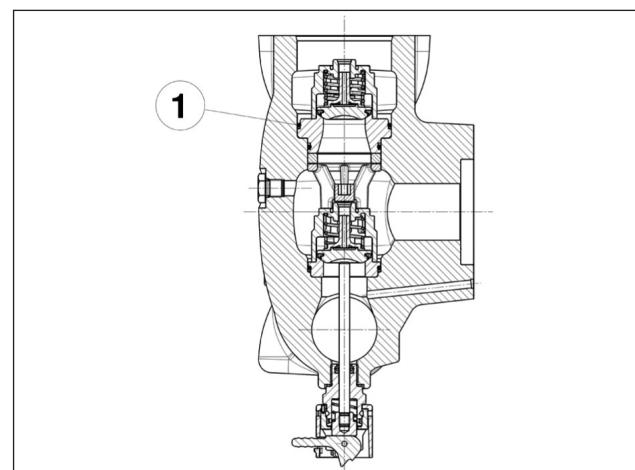

Fig. 122
**Pay special attention to O-ring insertion indicated in pos. ①, Fig. 122.